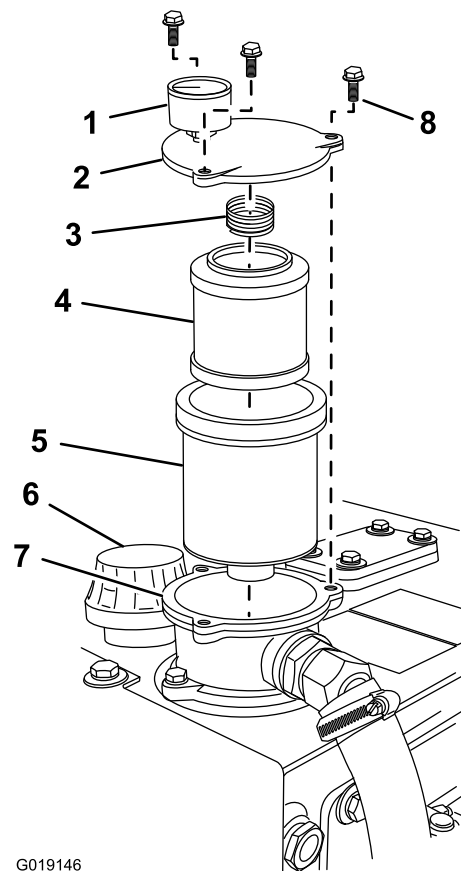

Figure 74
- A. Place a rag over the hydraulic tank breather/cap, and slowly turn the cap counterclockwise to remove the breather/cap (Figure 74).
- B. Install the breather/cap (Figure 74).
- A. Remove the 3 hex-head bolts that secure the filter cover to the filter housing (Figure 74).
- B. Remove the filter cover, spring, filter element, and filter bowl (Figure 74).
- B. Install the filter bowl into the filter housing Figure 74.
- D. Install the new filter element into the filter bowl (Figure 74).
- E. Install the spring (Figure 74).
- F. Align the filter cover to the filter housing, and align the hydraulic filter gauge adjacent to the breather/cap on the hydraulic tank (Figure 74).
- G. Thread the 3 hex head screws that were remove in step A of Removing the Hydraulic Filter (page 54) through the filter cover and into the filter housing (Figure 74).